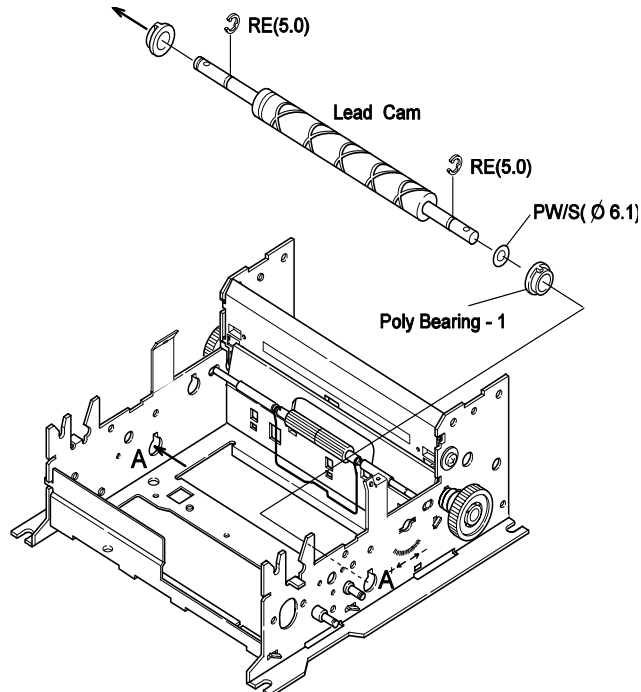

Figure 4-8, Separating Lead Cam
19. After removing the Lead Cam from the Frame Assembly, remove the Poly Bearing-1.(Figure4-8)
20. Remove the PW and RE(5.0) 2PCS from the Lead Cam. (Figure4-8)